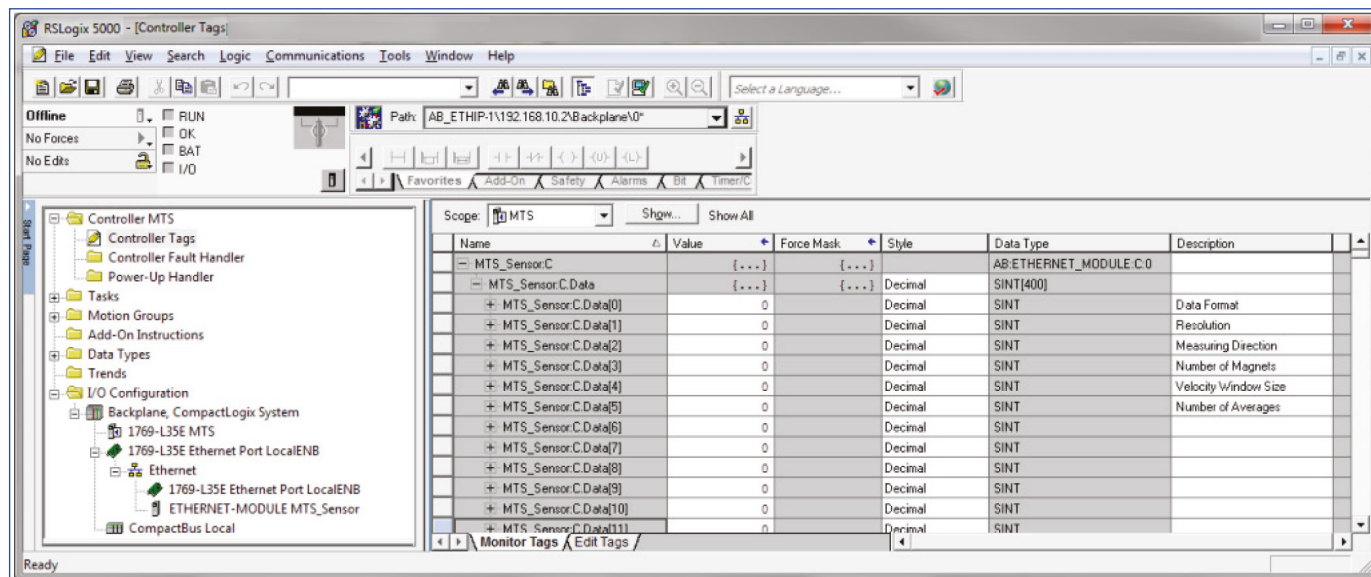

Fig. 89: Device control tags
7.6.1 In the “I/O Configuration tree”, click to open the “Controller Tags” directory. The controller tag table displays in the left pane (Fig. 89). The description column fields will be blank by default.